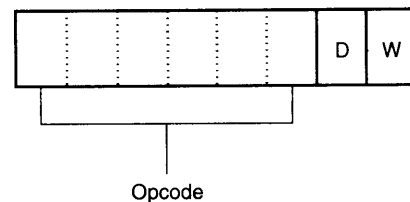

FIGURE 4-2 Byte 1 of many machine language instructions, showing the position of the D- and W-bits.
The Opcode. The **opcode** selects the operation (addition, subtraction, move, and so on) that is performed by the microprocessor. The opcode is either one or two bytes long for most machine language instructions. Figure 4-2 illustrates the general form of the first opcode byte of many, but *not* all, machine language instructions. Here, the first six bits of the first byte are the binary opcode. The remaining two bits indicate the **direction** (D)—not to be confused with the instruction mode bit (16/32) or direction flag bit (used with string instructions)—of the data flow, and indicate whether the data are a byte or a word (W). In the 80386 and above, words and doublewords are both specified when W = 1. The instruction mode and register-size prefix (66H) determine whether W represents a word or a doubleword.